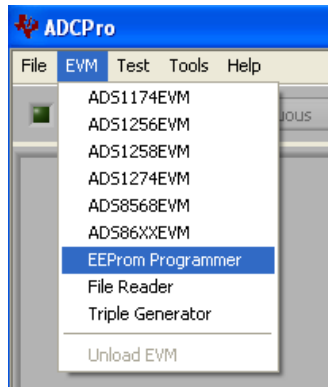

Figure 4
3. Load the EEPROM Programmer plug-in. It should be in the EVM pull-down menu as “EEPROM Programmer.” **Do not** use the EEPromPrgMMB3. See Figure 4 below –